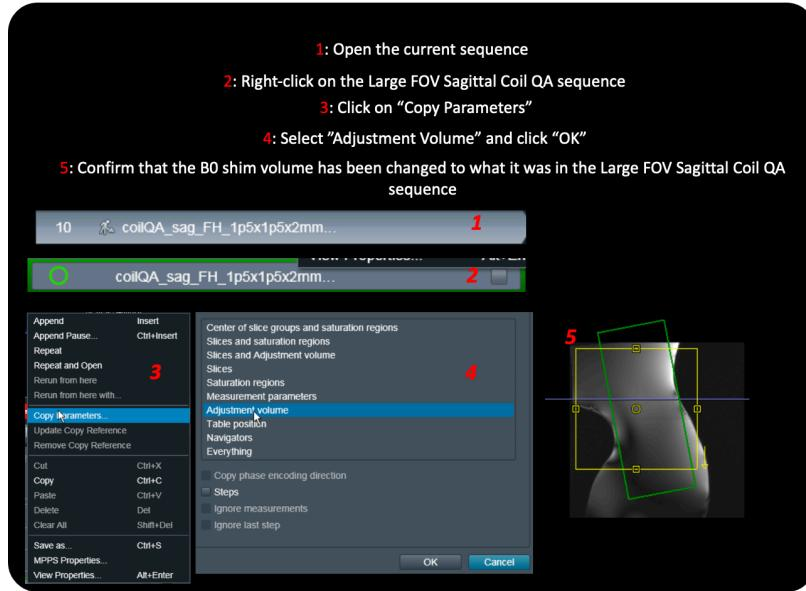

Figure 10. Guide on copying “Adjustment Volume”, eg the B0 shim box, from one scan to the next
- Copy the Adjustment Volume from the Large FOV Sagittal Coil QA scan, as shown in Figure 10, by right clicking on the Large FOV Sagittal Coil QA scan, and selecting "Copy Parameters→ Adjustment Volume"